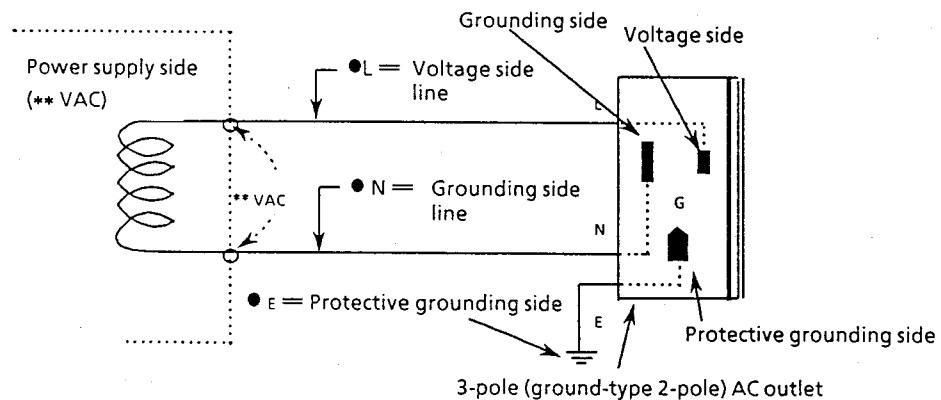
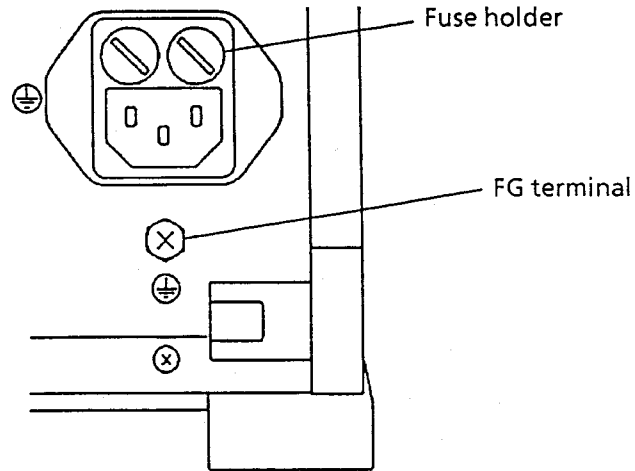

Fig. 2-1 3-wire Power Cord Plug and Outlet
Fig. 2-2
Three lines of a 3-pole (ground-type 2-pole) AC outlet having a grounding (E) terminal are connected to the voltage side line (L: live line), the grounding side line (N: neutral) and the protective grounding line respectively as shown in Fig. 2-1. The three-wire power cord connected to the equipment is designed to match the polarity when the plug is connected to a 3-pole (ground-type 2-pole) AC outlet.
Where a 3-pole outlet as shown in Fig. 2-1 is not available, connect the FG terminal (Fig. 2-2) at the rear panel of the equipment directly to the ground.
Standing on the above-mentioned safety measures, fuse replacement procedures are described below. The location of the fuses is shown in Fig. 2-2.